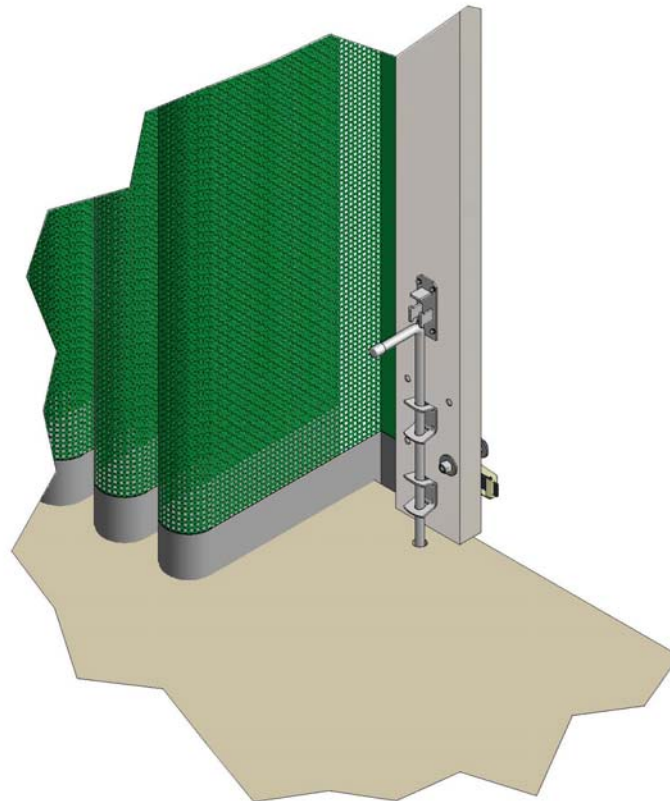
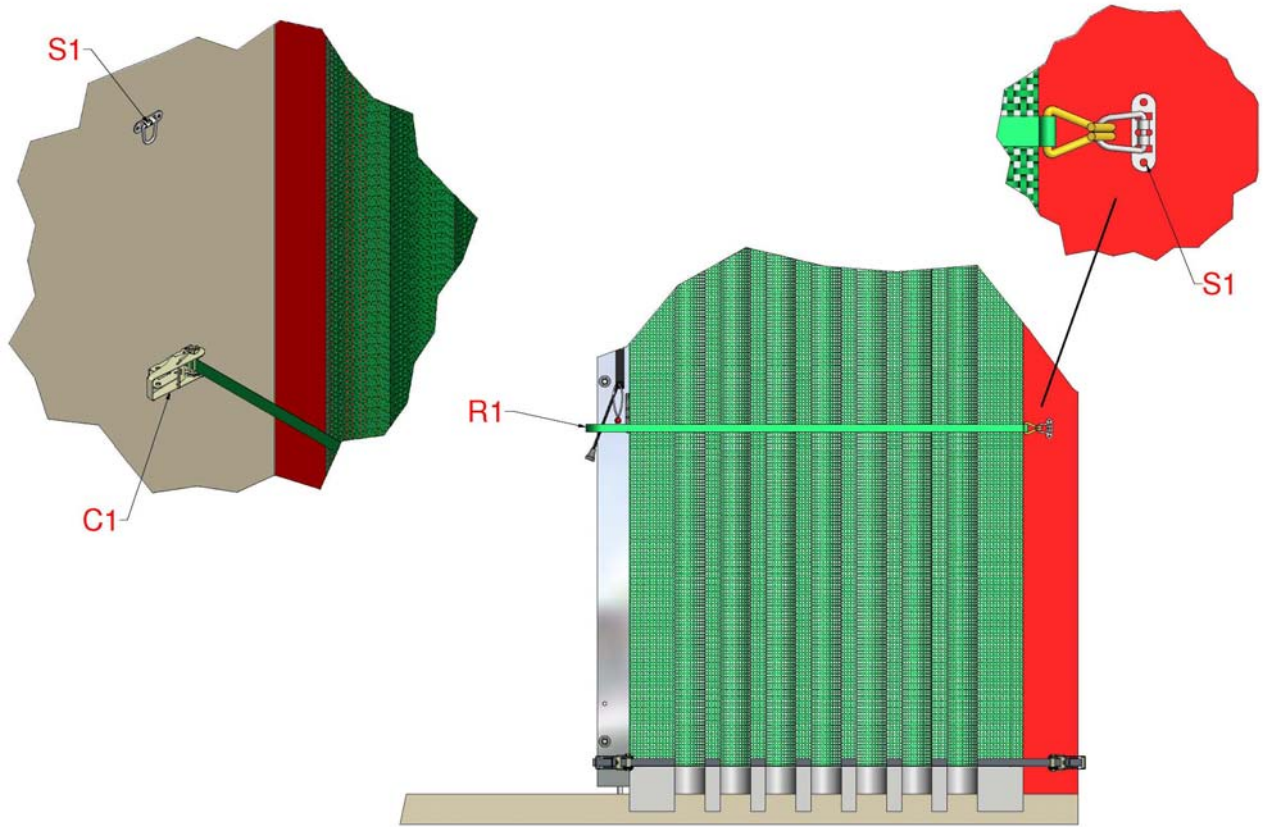

Figure 11, Surface Bolt
Figure 12, Trackscreen Tieback
16. To fasten screen when open, drill a 18mm hole in floor to accept the sliding post surface bolt, Figure 11.
17. Fasten the lashing ring (S1) to the building upright as shown in Figure 11. Fasten the 25mm ratchet (C1) to the inside of the building at the same height as the lashing ring. Attach the hook of the 25mm screen tieback strap (R1) to the lashing ring, around the folded trackscreen and onto the ratchet. Tension the ratchet to secure the Trackscreen. It is important that the screen is pulled together as tight as possible when open to prevent screen damage during gusts of wind. Fasten the second lashing ring to the building above the internal ratchet to hang the tieback strap to when not in use, Figure 12.